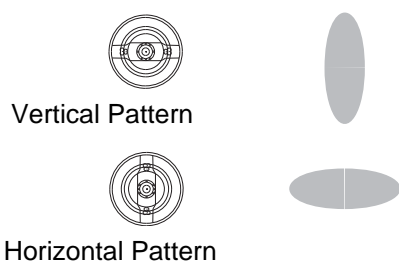

FIG. 18. Air Cap Positions
4. Loosen the air cap retaining ring, and rotate the air cap for a vertical or horizontal spray pattern. See FIGURE 18. Tighten the retaining ring until the air cap is held firmly in place; you should not be able to rotate the air cap horns by hand.